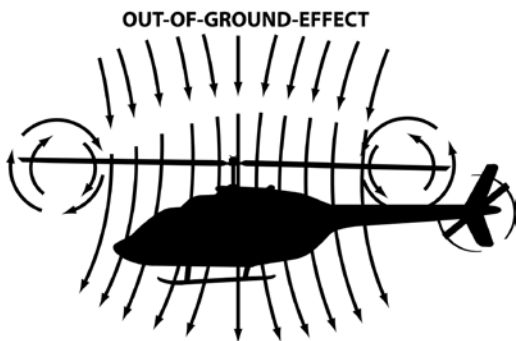

Figure 8
**HOVER-OUT-OF-GROUND-EFFECT (HOGE)** occurs when the helicopter exceeds about one half the rotor diameter distance from the ground and the cushion of air disintegrates (Fig 8). To maintain a hover, the helicopter is now power dependent. This situation will occur when the terrain does not provide sufficient ground effect base or when performing external load work. Maximum performance is required and payload may have to be reduced.